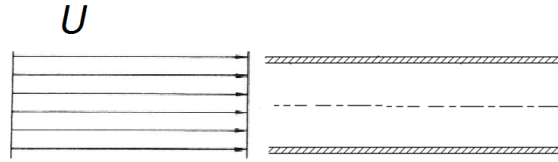

Fig 2.1 Schematic of the case2
6. Boundary Conditions: No slip condition is applied on top and bottom edge of the rectangular. A horizontal velocity of 1 unit is prescribed in left edge of the domain (figure 2.1) and pressure of 0 units us applied on the right edge.